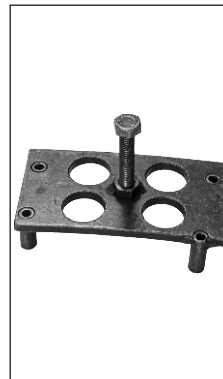

Fig. 1.7A
3. Puller assembly crankcase - M131 011 0 (Fig. 1.7A)